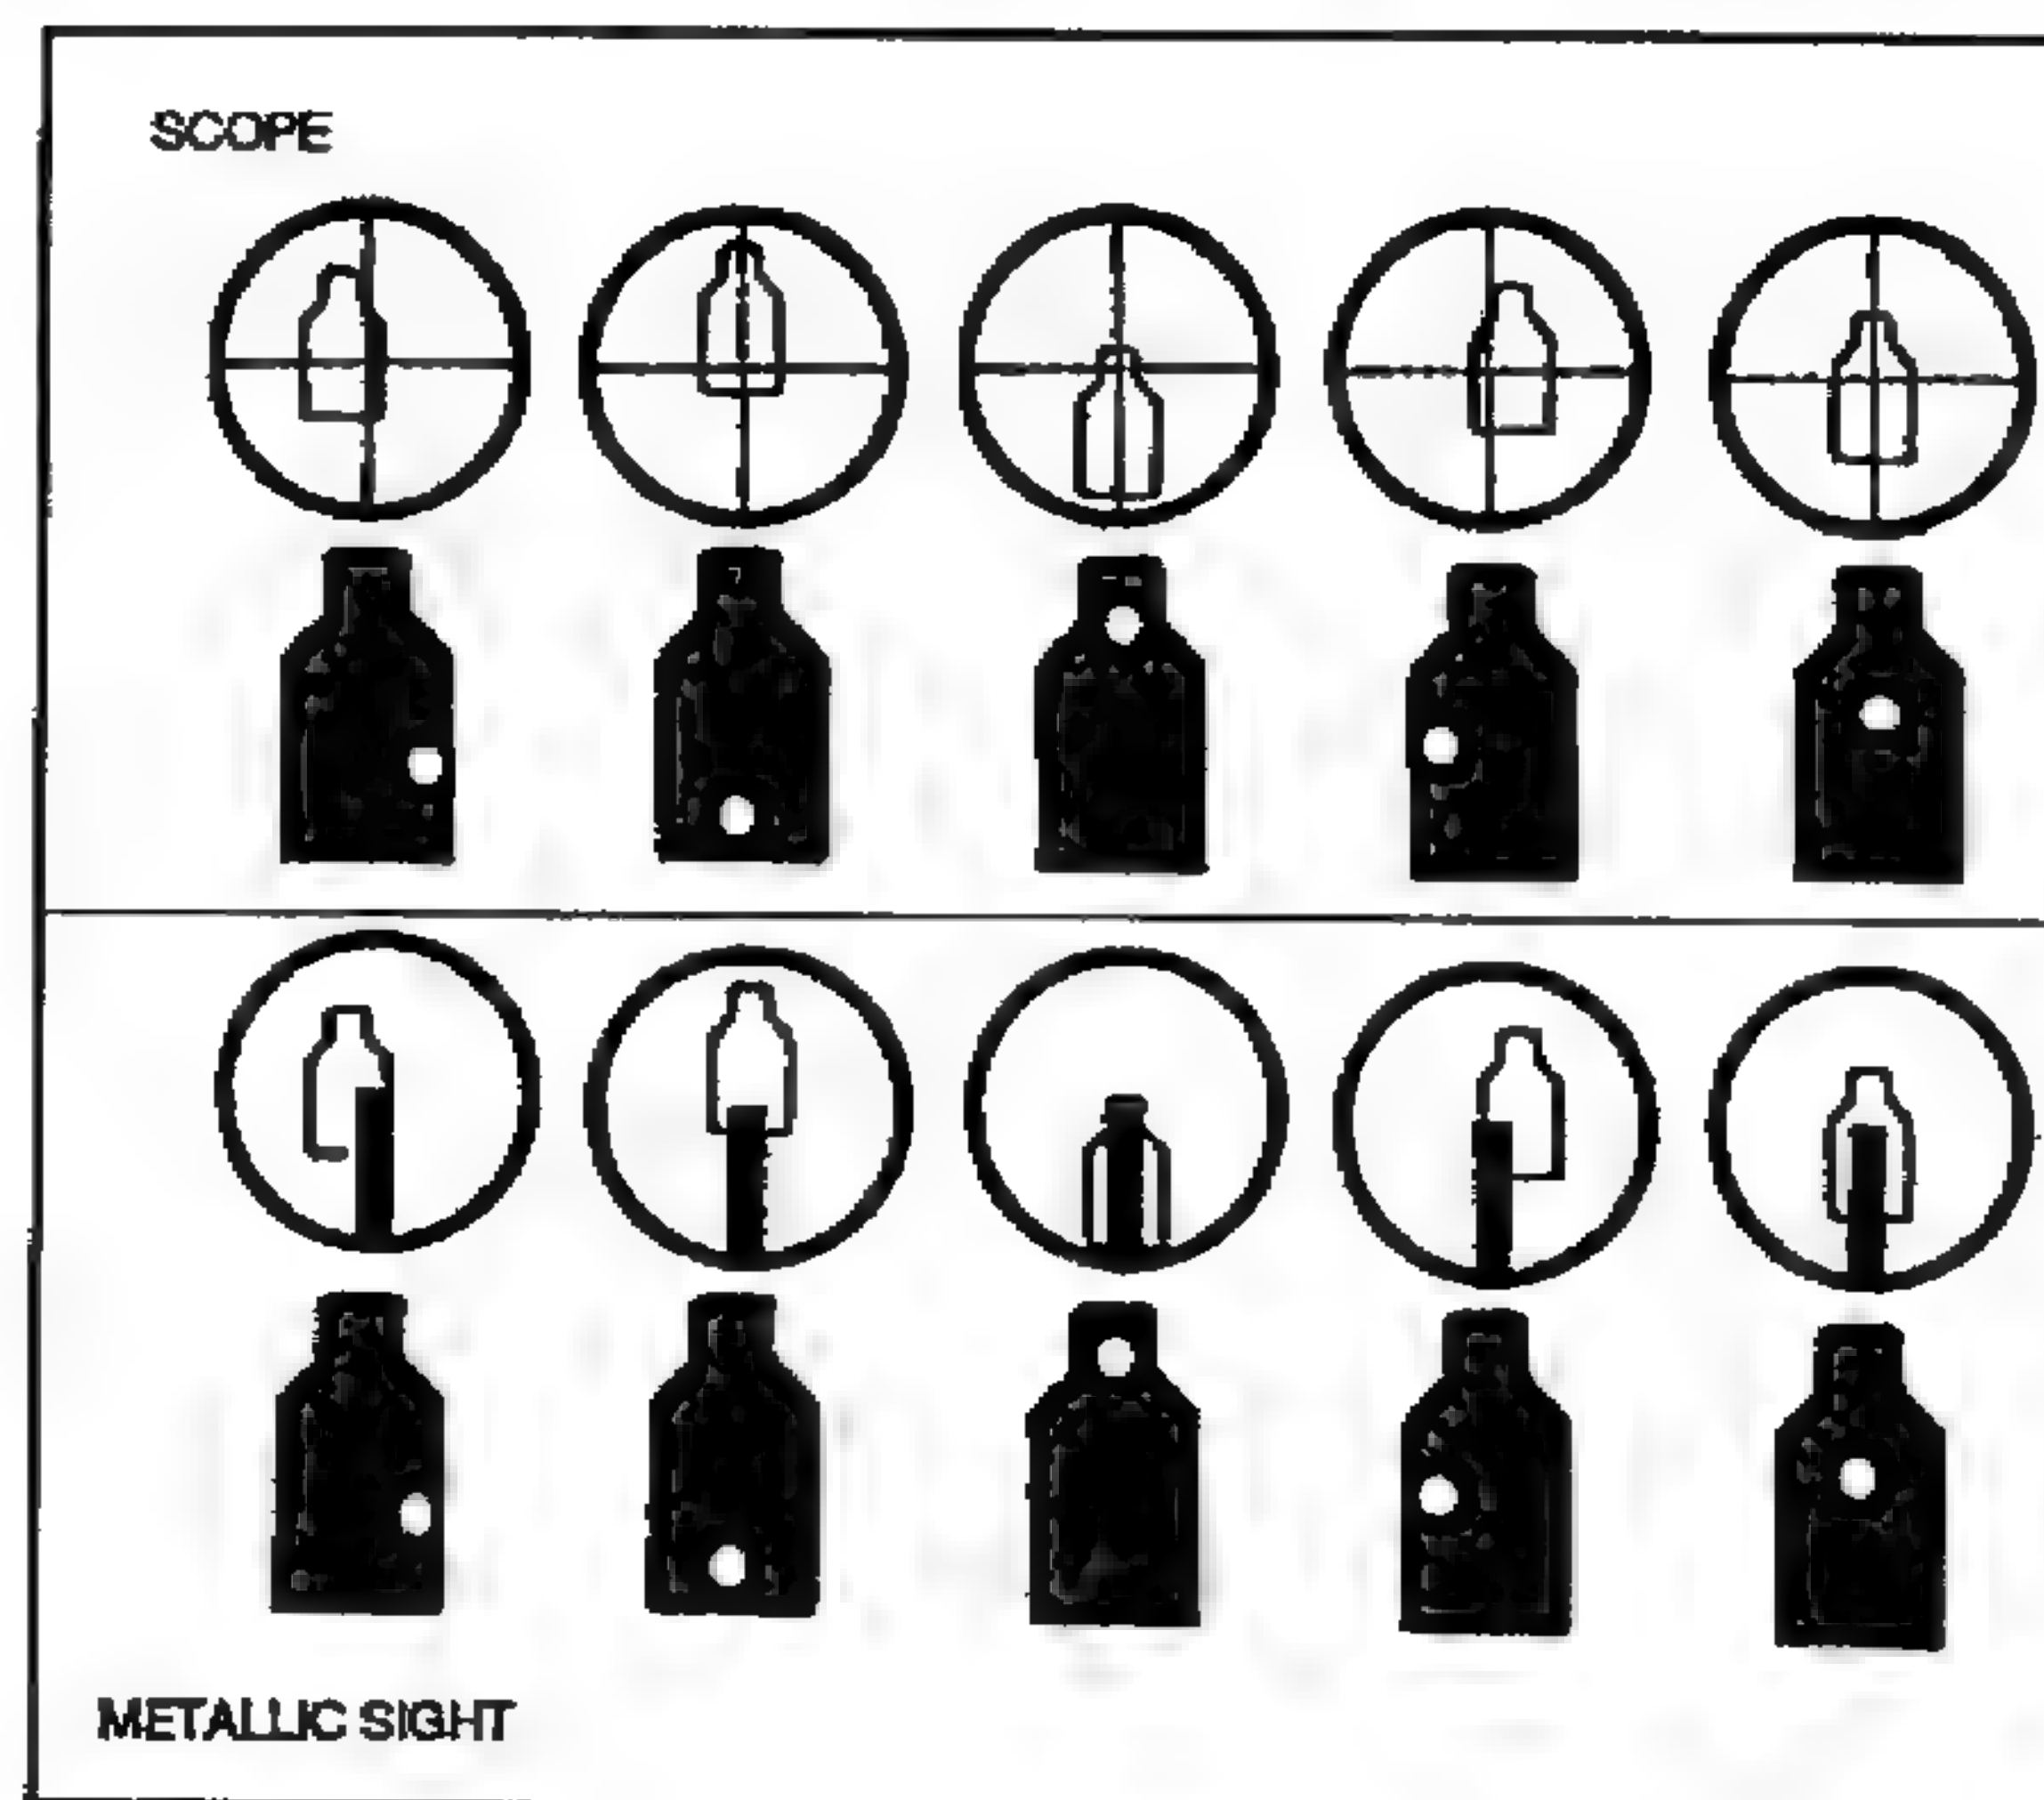

Figure 3-18. Sight picture.
c. **Sight Picture.** With telescopic sights, the sight picture is the relationship between the reticle and full field of view and the target as seen by the sniper. The sniper centers the reticle in a full field of view. He then places the reticle center of the largest visible mass of the target (as in iron sights). The center of mass of the target is easiest for the sniper to locate, and it surrounds the intended point of impact with a maximum amount of target area. With iron sights, sight picture is the relationship between the rear aperture, the front sight blade, and the target as seen by the sniper (Figure 3-18). The sniper centers the top edge of the blade in the rear aperture. He then places the top edge of the blade in the center of the largest visible mass of the target (disregard the head and use the center of the torso).